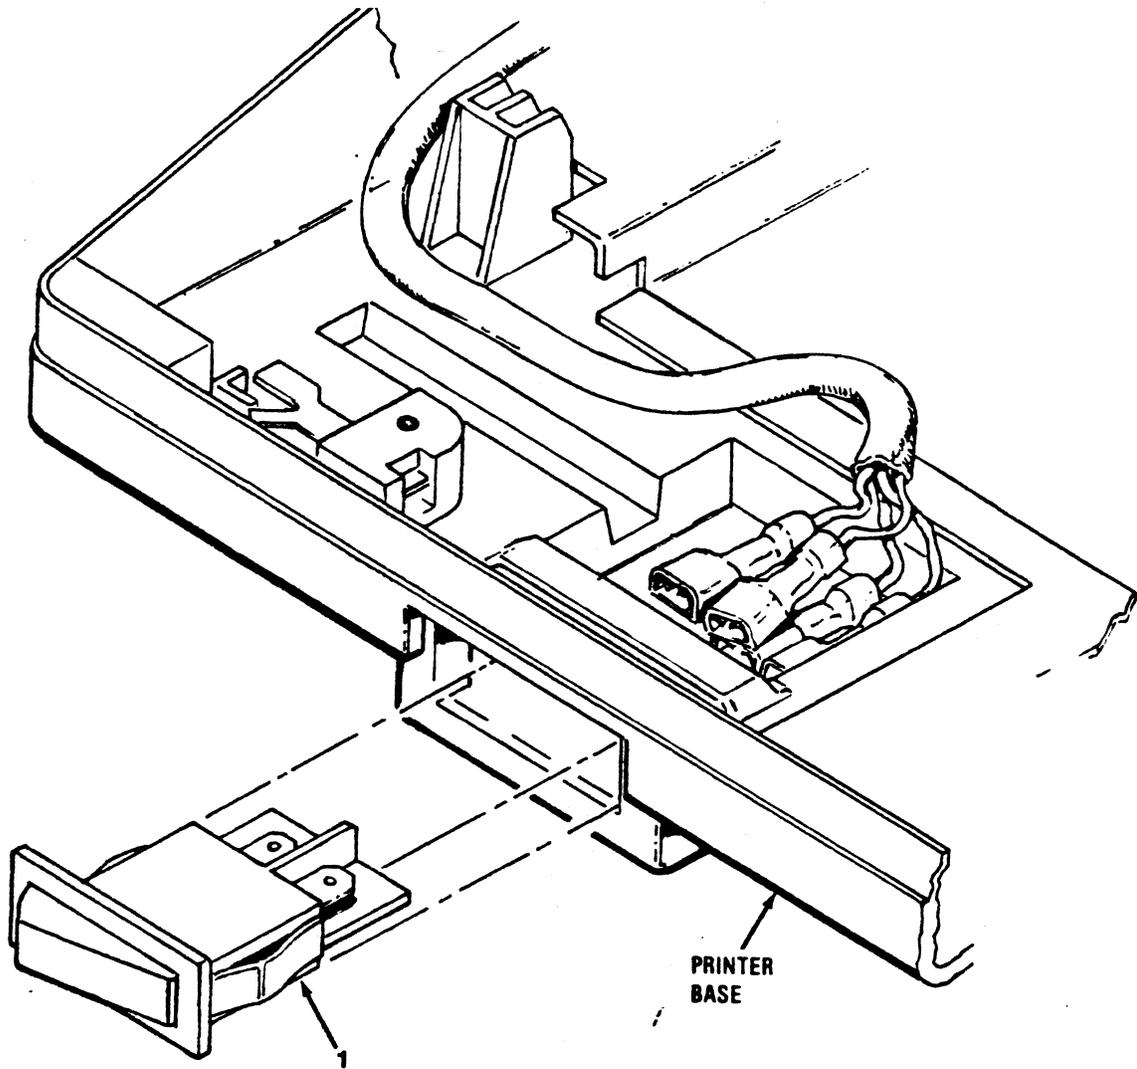

Figure 5-20. REMOVAL/REPLACEMENT, ON/OFF SWITCH
The ON/OFF switch item 1 of Figure 5-20 is located on the right front of the printer base and no tools are required to remove the switch. To remove the ON/OFF switch, refer to Figure 5-20 and perform the following steps: